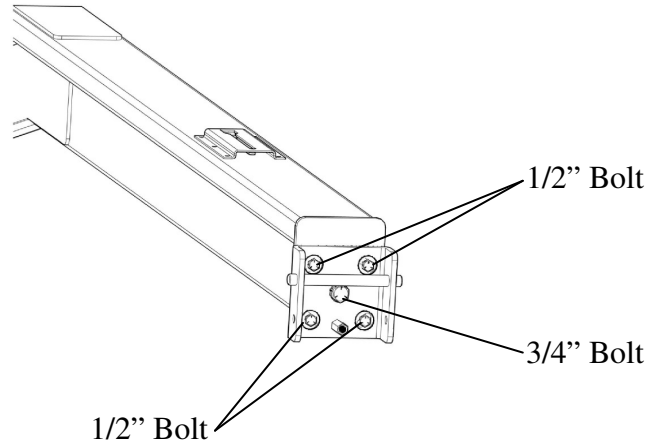

Figure 10
19. To level the backboard in the horizontal plane, loosen the four 1/2" bolts and the one 3/4" bolt in the center of the Quick Change Bracket attached to the boom. Refer to figure 10. Level the board and tighten all bolts securely.